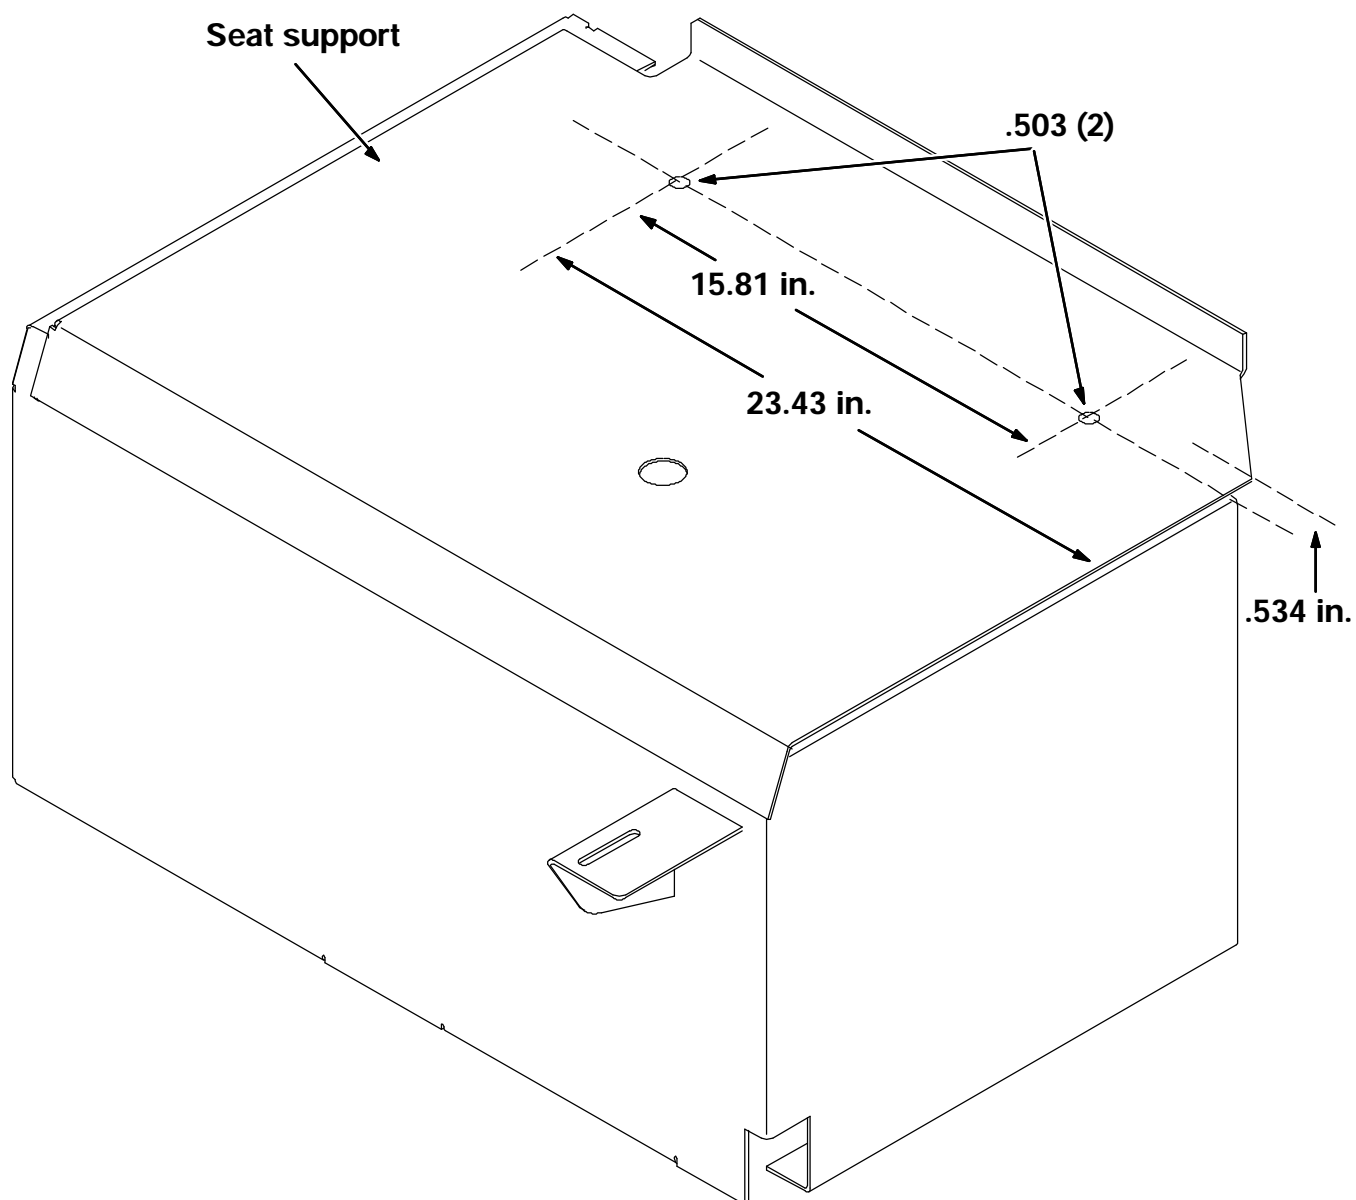

FIG. 1 - Hole Locations
(Refer to FIG. 1)
1. Use the dimensions in FIG. 1 to mark and drill the seat belt mount holes in the top of the seat support.
2. Attach each seat belt (1) to the seat support using the hex screws (2), one flat washer (3), through the mount hole in the belt, through the new holes in the seat support, the second flat washer (3), then, the nyloc nut--located on the under side of the seat support. Tighten the hardware.